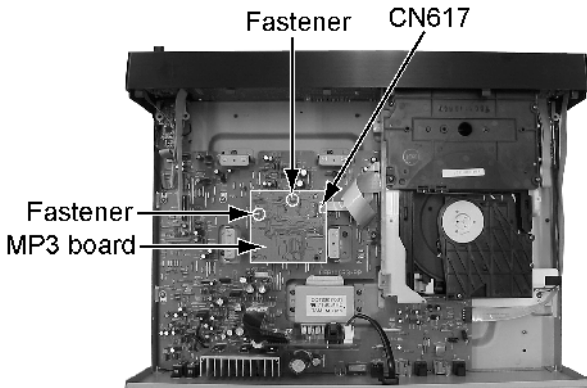

Fig.7
2.1.4 Removing the MP3 board (see Fig.7,8)